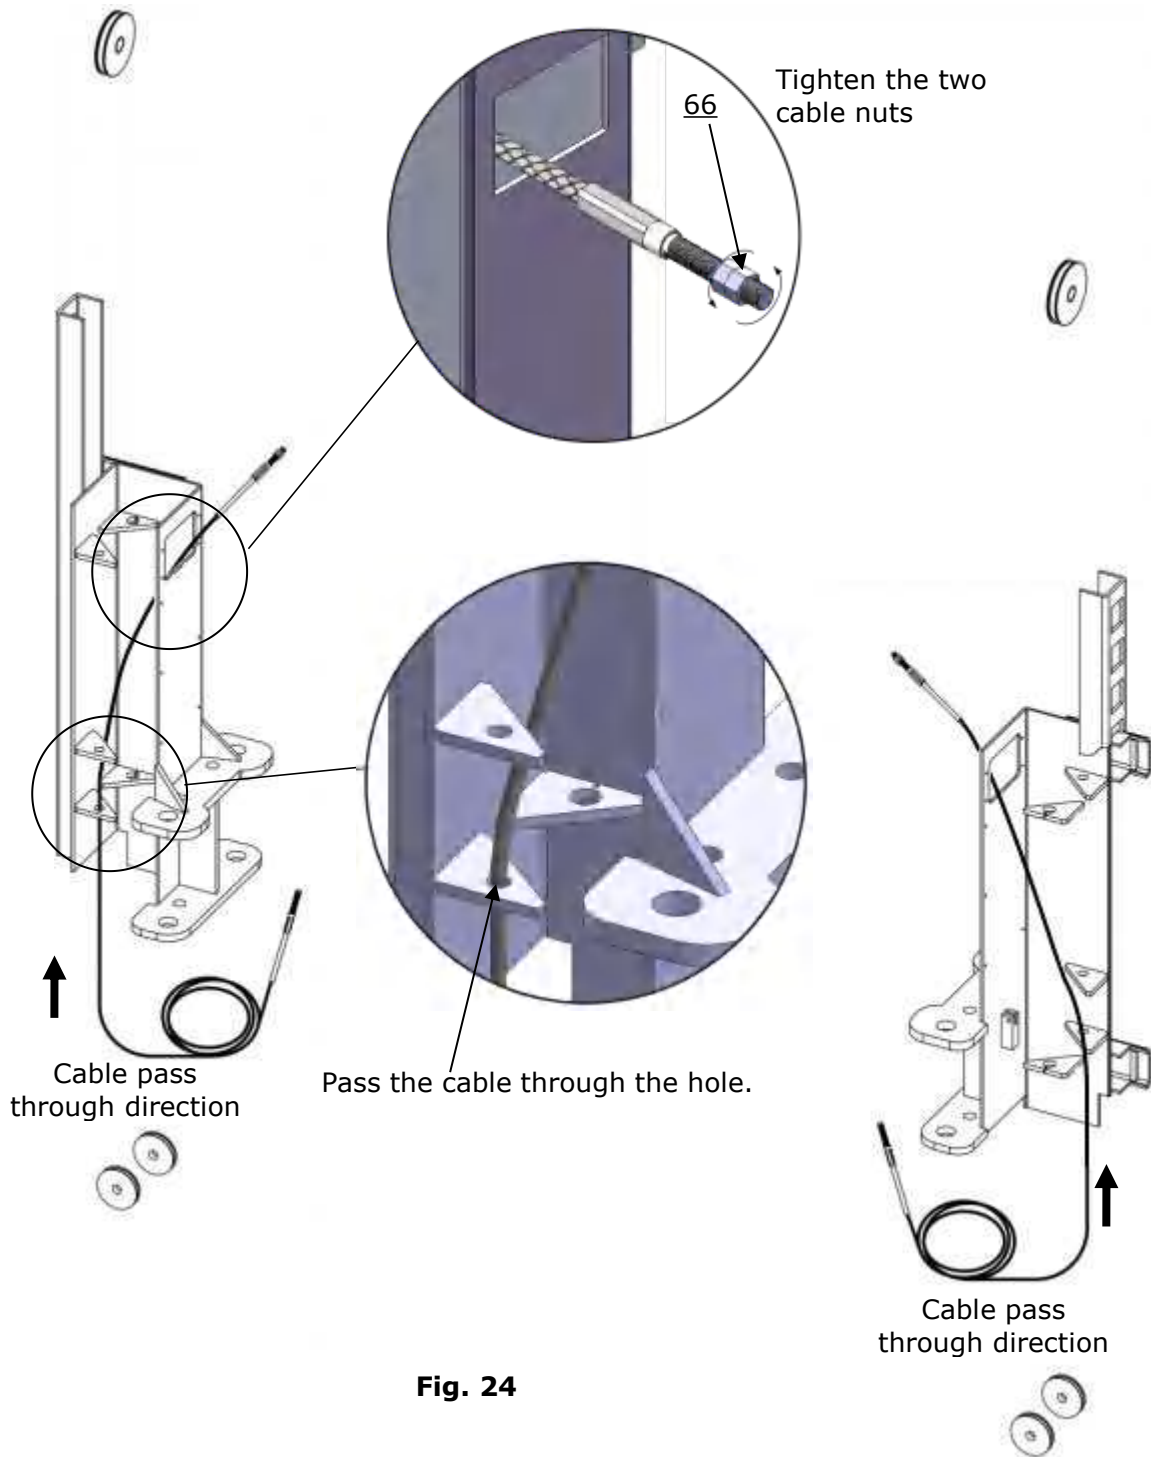

Fig. 24
2.1 Pass the cable from the bottom to the top of carriage, pull it out from the hole of carriage and then tighten the two cable nuts. See fig 24.